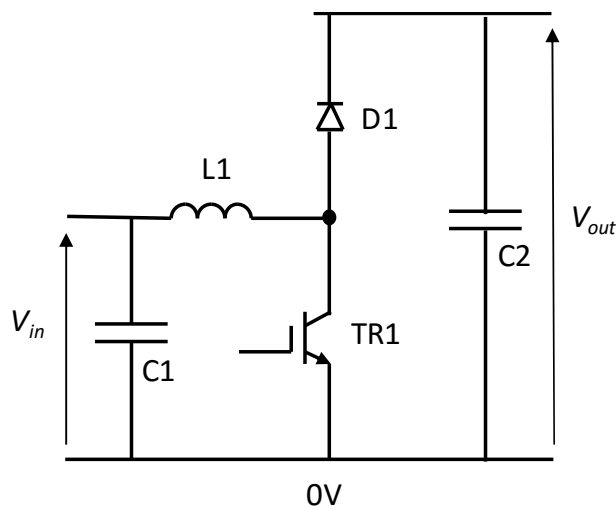

Figure Q2b: Boost converter
- Q2b** Figure Q2b shows a boost converter. It operates under pulse width modulation (PWM) control and in the continuous conduction mode (CCM). By equating the voltage appearing across the choke ($L1$) during the transistor's on-time and that during its off-time, show that the voltage gain, $\frac{V_{out}}{V_{in}}$, is given by $\frac{V_{out}}{V_{in}} = \frac{1}{1-\delta}$ where δ is the duty factor at which TR1 is driven on. Explain why the output capacitance, $C2$, is likely to be greater than the input capacitance, $C1$, in a practical application.